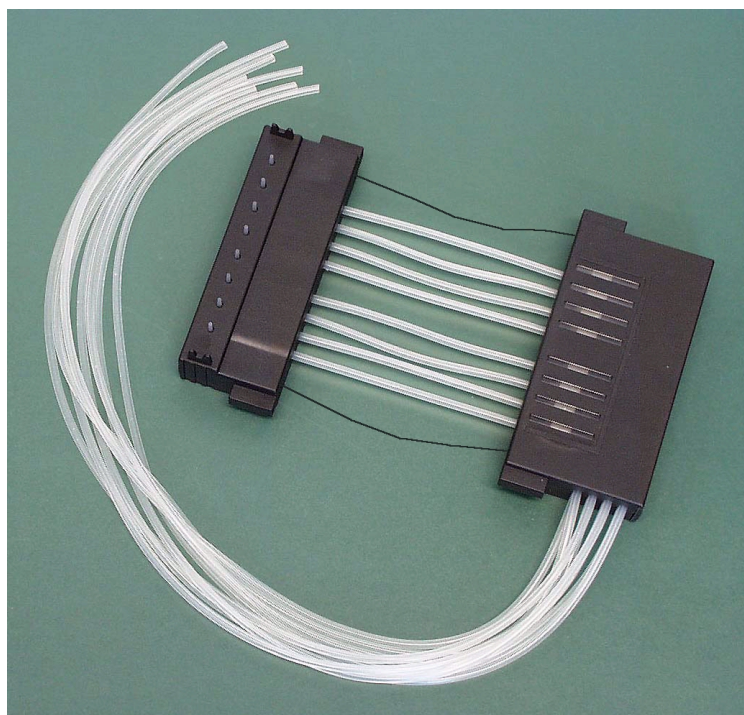

Fig. 7.34 Dispensing cassette precalibrated
18. When the tube fasteners have all been adjusted roughly to the middle of the sight strip, close the calibration screw cover (*Fig. 7.34*).